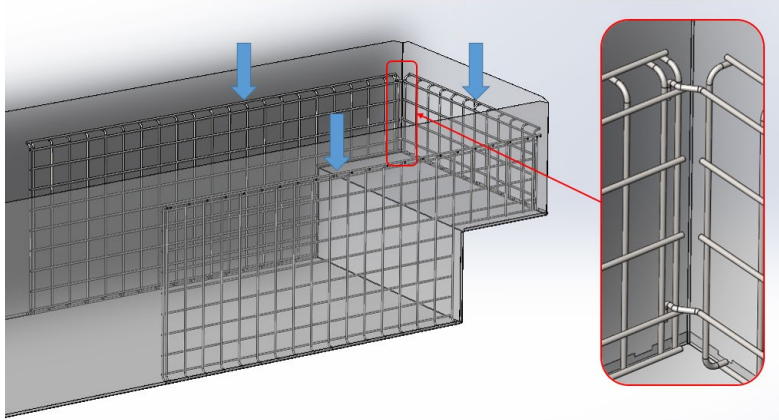

Fig. 4.1.1. The procedure for installing grids.
1. Two longitudinal mirror grilles with a step are installed in the internal space of the showcase from the side of the aggregate compartment (Fig. 4.1.1). This connection is universal for all types of showcases